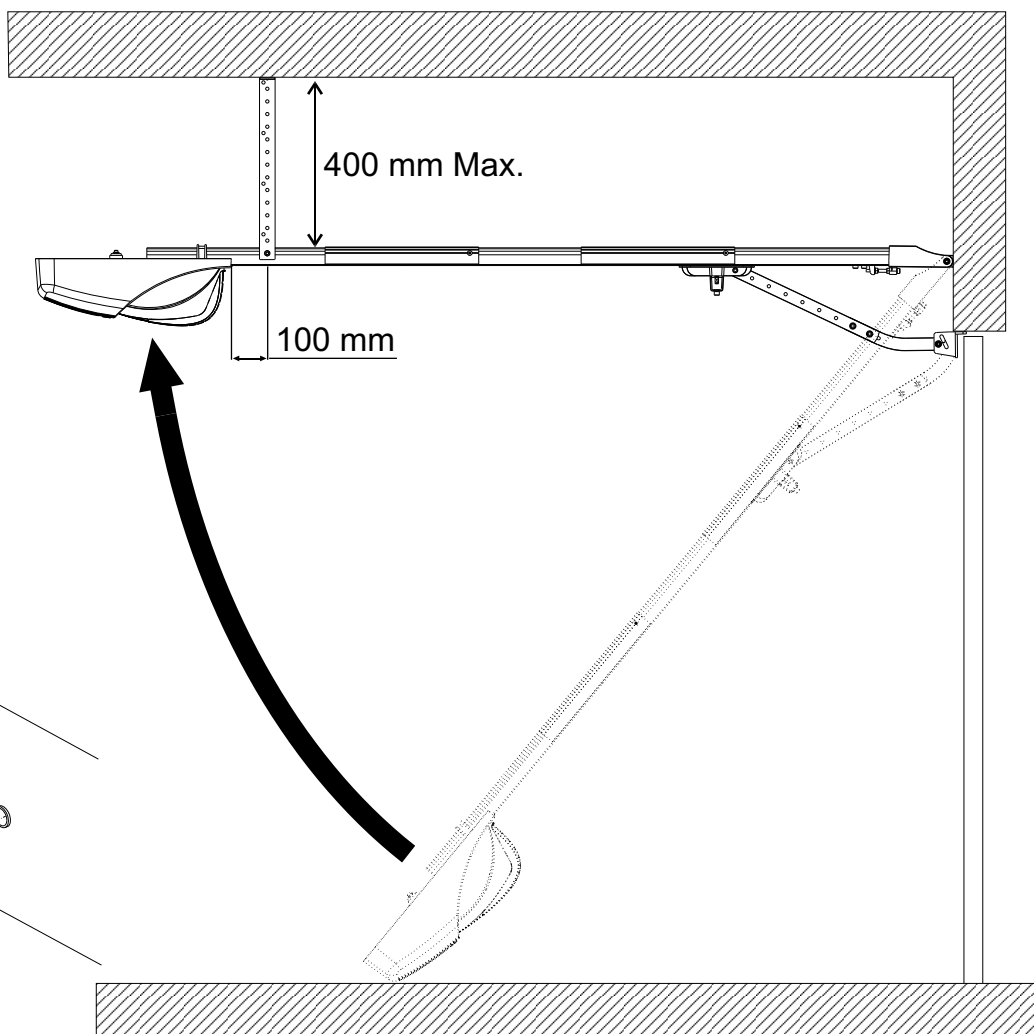

Fig. 9
- Lift the Corona S and fix it to the ceiling with the special brackets keeping a maximum distance of 400 mm from the ceiling and making sure that the operator is in a perfectly horizontal position (Fig. 9);